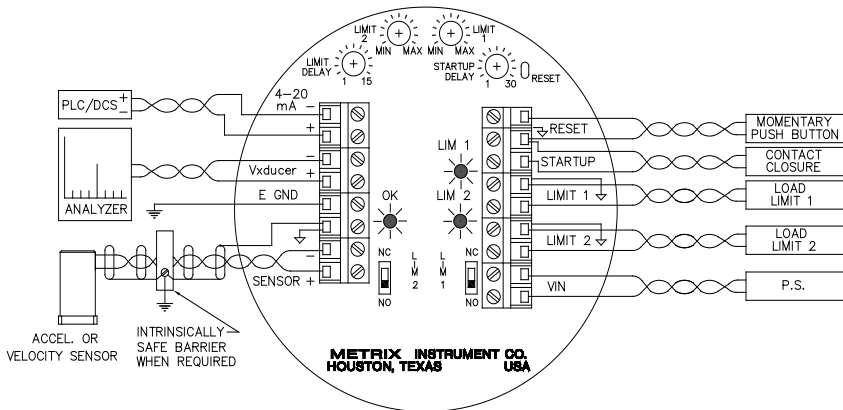

Figure 2: Wiring Diagram (LCD option not shown)
Refer to Figure 2 for wiring information. For incoming power and switch output(s) use approved wire of 14 AWG (1.5 mm2) or smaller.
- Set each SW6000 for N.C. (normally closed) operation. (See Figure 2)
The optional FET limit output(s) provide a low leakage switch for DC inputs to PLC's or other devices. Do not use on an AC supply. Observe proper polarity when wiring the FET(s) (See figure 2). Damage to the FET(s) will result from improper wiring. As with the triacs, the FET(s) can be set for N.C. or N.O. operation by positioning the Limit 1/Limit 2 switches accordingly.
If remote reset capability is desired, connect Reset terminals (see Figure 2) to a remotely located, momentary N.O. pushbutton switch. Observe hazardous area requirements if applicable.
If the optional 4-20 mA output is installed, it may be connected to a remote receiver, as shown on the wiring diagram (see Figure 2). This output is a current source (at 15VDC) and requires no external loop power supply. Full scale current (20 mA) corresponds to the full scale vibration response marked on the face plate. A current of 4.0 mA represents a zero vibration condition. The maximum load resistance is 600 ohms. In high electrical noise locations a shielded, twisted pair cable is recommended.